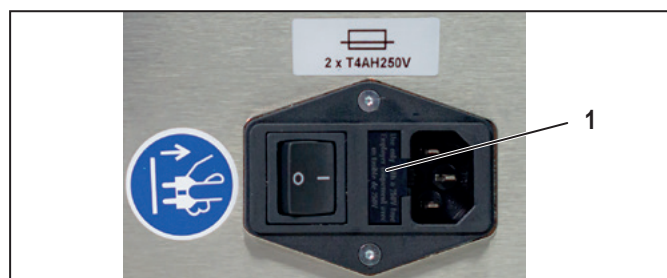

Figure 8.5 Opening the fuse compartment
- Lever the fuse compartment with a flat-blade screwdriver, see Figure 8.5, 1.